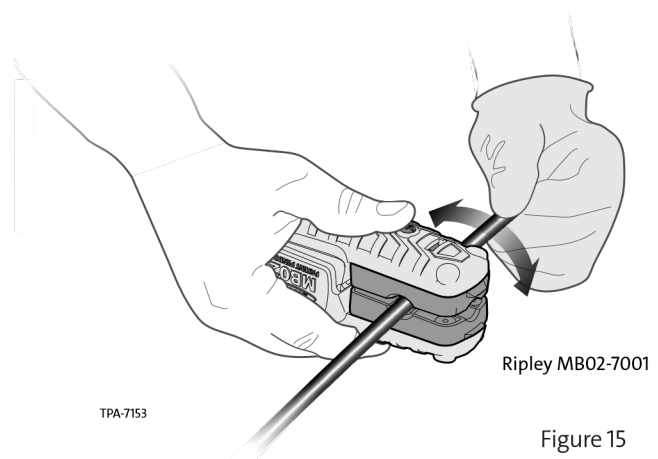

Figure 15
**Step 3:** Place tool on the ring cut end of the cable in the position for long cuts and align with fast access ridges (Figure 15).